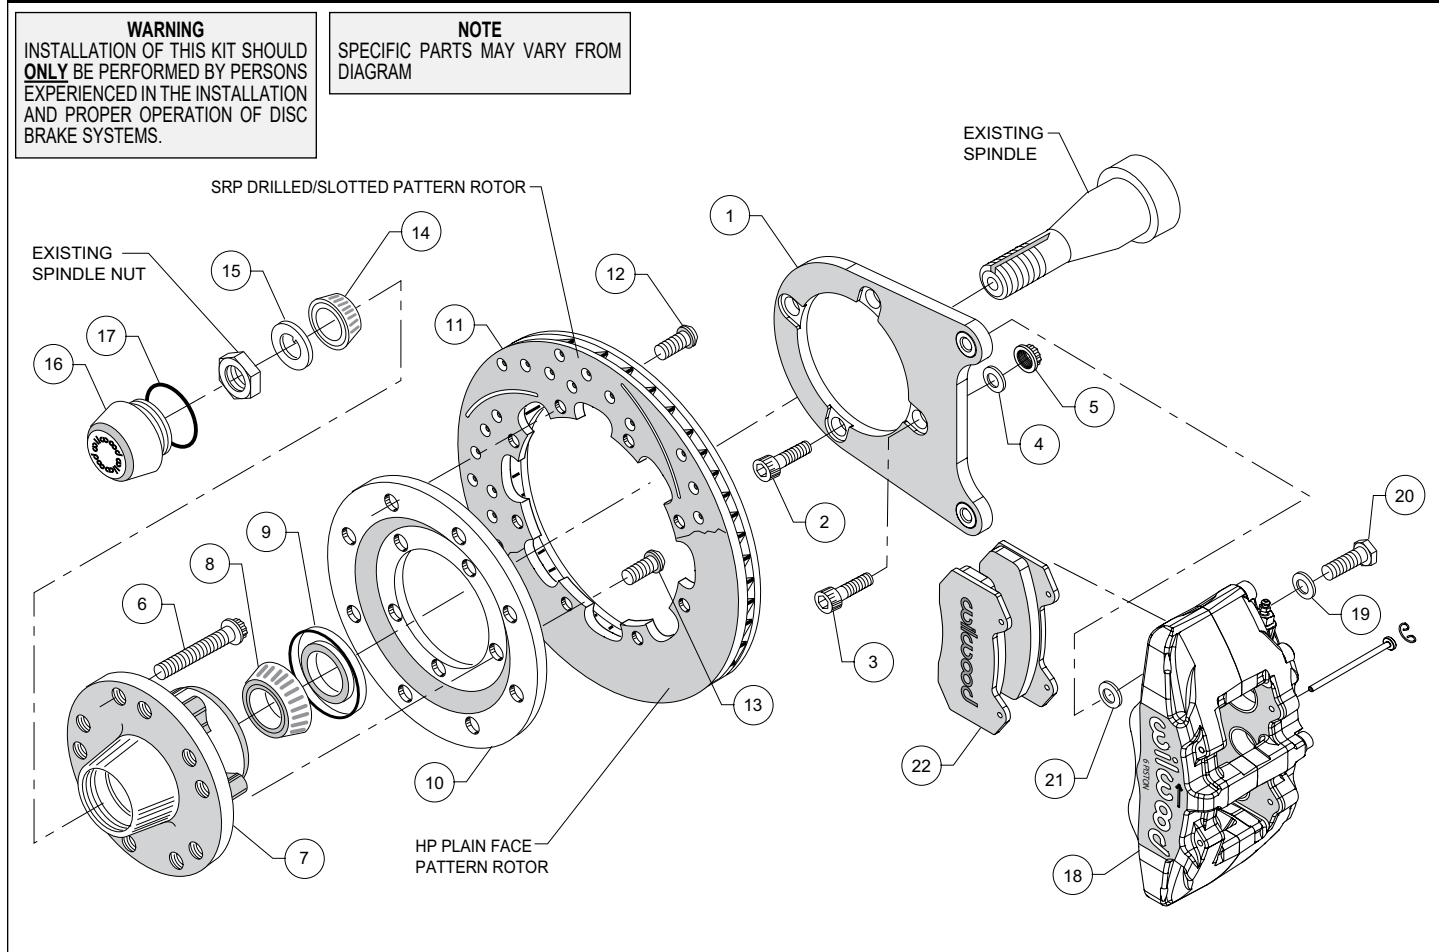
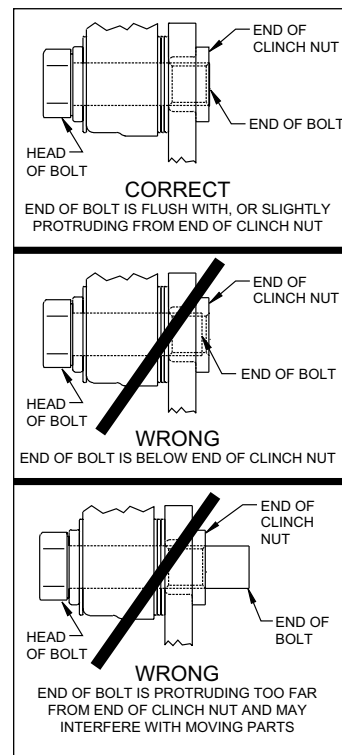

Figure 1. Typical Installation Configuration
Figure 3.
NOTE: Numbers in parenthesis refer to the parts list and Figure 1 on the preceding pages.
CAUTION: All mounting bolts must fully engage clinch nuts. Be sure to check that all bolts are either flush or protruding through flanged side of clinch nut after shimming, Figure 3.
- Orient the caliper mount bracket (1) as shown in Figure 1. Install using bolts (2) threaded into the steering arm and bolts (3), washers (4), and locknuts (5), Figure 1. Ensure that the flanged heads of the clinch nuts in the bracket are facing outboard, Figure 1. Temporarily tighten the mounting bolts. **NOTE:** The bracket must fit squarely against the mounting points on the spindle. Inspect for interference from casting irregularities, machining ridges, burrs, etc. Torque locknuts (5) to 65 ft-lb. Apply red *Loctite*® 271 to the threads of bolts (2) and torque to 80 ft-lb.
- Install wheel studs (6) into the hub (7). Torque to 77 ft-lb. **NOTE:** There are two five lug patterns in the hub (5 x 4.50 and 5 x 4.75). Make sure of the correct hole pattern for the correct wheel application before installing studs into hub.
- Pack the large inner bearing cone (8) with high temperature disc brake bearing grease (available from your local auto parts store) and install into the backside of the hub (7).
- Install the grease seal (9) by pressing into the backside of the hub (7).
- Orient the rotor (11) and the rotor adapter (10) as shown in Figure 1. Attach the rotor to the adapter using bolts (12). Using an alternating sequence, apply red *Loctite*® 271 to the threads, and torque to 25 ft-lb.
- Mount the adapter/rotor assembly (10/11) to the hub (7) using bolts (13), as shown in Figure 1. Using an alternating sequence, apply red *Loctite*® 271 to the threads, and torque to 45 ft-lb.
- Pack the small outer bearing cone (14) with high temperature disc brake bearing grease and install into front of hub (7). Slide the hub/rotor assembly (7 and 11) with outer bearing cone (14) onto the spindle. Secure using new spindle washer (15), your adjusting nut and nut locking device. Adjust bearings per Original Equipment Manufacturer (OEM) specifications.
- Install the dust cap (16) onto the hub (7). Friction created by the o-ring (17) on the dust cap (16) keeps it from unscrewing. Be sure the spindle washer (15) seats properly against the hub face.
- NOTE:** Please reference the caution statement at the beginning of the assembly instructions. This kit contains distinct right and left hand calipers that must be mounted in a specific direction, as described below. Mount the caliper (18) onto the caliper bracket (1) using bolts (20) and washers (19), as shown in Figure 1. Initially place two .032" thick shims (21) on each bolt between the caliper and the bracket. Ensure that the caliper is mounted so the largest pistons are at the rotor exit end of the caliper, in relation to the direction of rotor rotation. Temporarily tighten the mounting bolts and view the rotor (11) through the top opening of the caliper. The rotor should be centered in the caliper. If not, adjust by adding or subtracting shims (21) between the bracket and the caliper. Always use the same amount of shims on each of the two mounting bolts. **NOTE:** The end of the bolt must be flush with or slightly protruding from the head of the clinch nut in the bracket. If necessary, place spare shims between the washer and the caliper mounting ear to achieve the proper clinch nut engagement, as shown in Figure 3. Always use the same amount of shims on both the top and bottom caliper mounting bolts. Once the caliper alignment and clinch nut engagement are correct, remove the mounting bolts and caliper.
- Remove the two pad retaining pins from the caliper (18) by carefully popping out the pin retaining clips and sliding out the pins. Insert the brake pads (22) into the caliper from the bottom, Figure 1, with the friction material facing the rotor. Secure the brake pads in place with the pad retaining pins and clips. Reinstall the caliper onto the caliper mounting bracket. Apply red Loctite® 271 to bolt threads (20), and torque to 40 ft-lb.